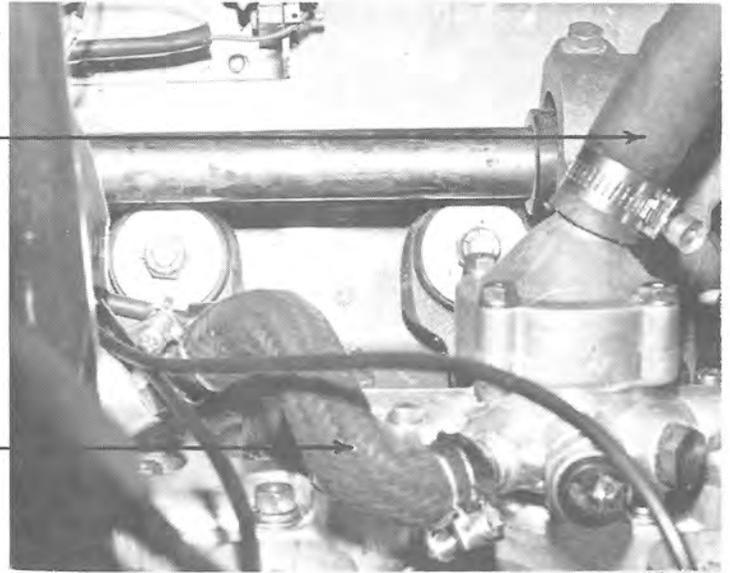

FIG. 1-7
3. Disconnect the coolant by-pass hose. (2 clamps). See Fig. 1-7.